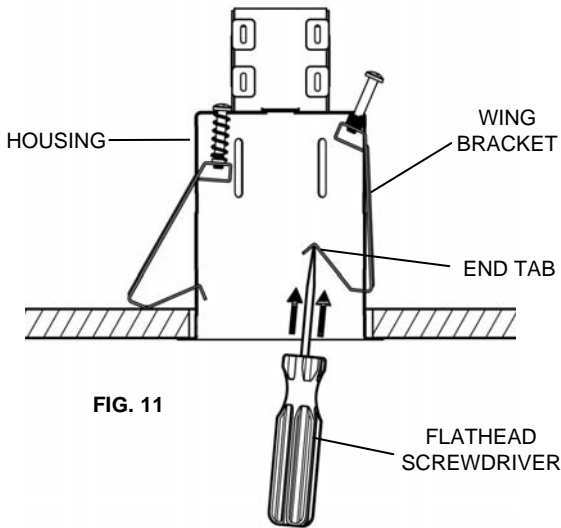

FIG. 11
3. Push the end tab toward the center of the housing to move the wing bracket against the side of the housing. (Fig. 11) This should allow the wing bracket to clear the edge of the hole.